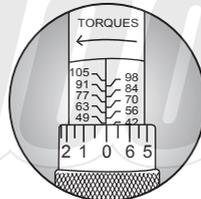

Figure 1
- C. Lock handle securely by turning lock nut (Black round knob) clockwise, and now wrench is set at 55 Newton Meters, which is ready to use. See figure 1 and 2.